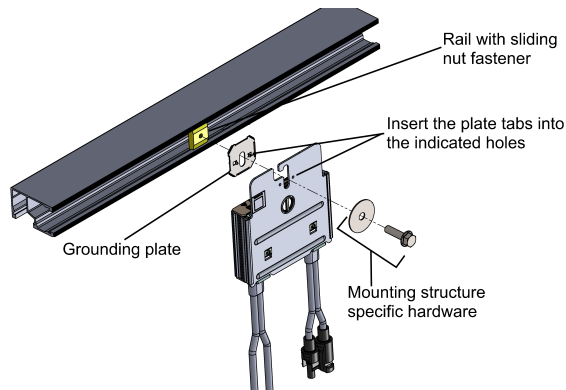

Figure 7: Power optimizer installation and grounding using a grounding plate
- For mounting on rails with sliding nut fasteners:** If the star washer cannot be used, use the SolarEdge grounding plate (purchased separately) between the railing and the flat side of the mounting bracket. Use mounting specific hardware as needed. Apply torque of 9.5 N\*m / 7 lb\*ft. See *Figure 7*.